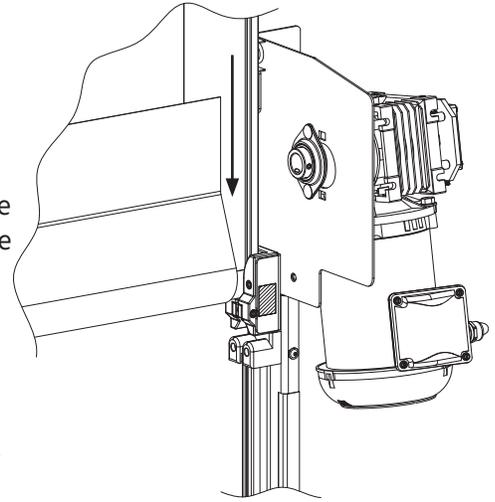

Figure 32: Curtain travel through the Re-Feed Blocks.
4. There are 2 Shroud Mounting Brackets on either end of the Shroud Weldment (Figure 32). These brackets have slots that will slide onto the screws you just installed on the RH & LH Flag Plates. The outside surfaces of these brackets will fit between the inner surfaces of the Flag Plates.